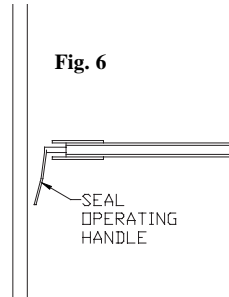

Fig. 6
Move the last panel(s) into place. If you have retractable seals, you will need to extend two seals on the last panel in the opening. The first seal is located in the trail edge of the panel (Fig. 6). Insert the operating key over the exposed shaft in the vertical edge and turn key 190 degrees clockwise to set the seal(s). (The shaft may be hidden from view by the expanding post). To extend the second seal, insert the operating key over the shaft located on the face of the panel (Fig. 7). Turn the key clockwise until you feel resistance against the wall. This action extends the closure and completes the acoustical seal. Note: Make certain you apply sufficient pressure to compress the vinyl seal against the wall.